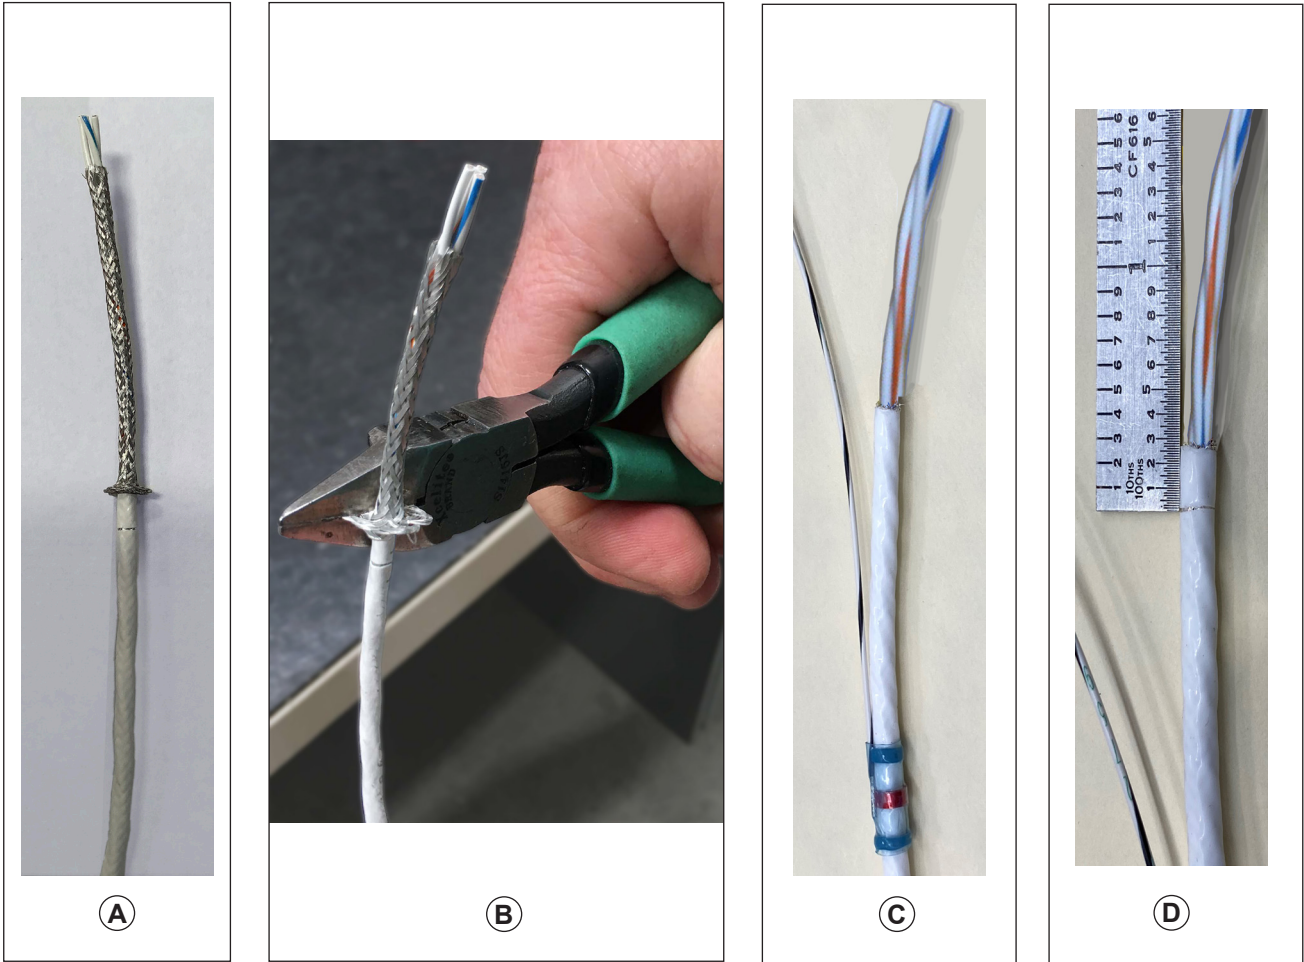

FIGURE 8 Removing outer jacket & braided shielding
18. Refer to Figure 8. On bare end of D845-3 harness assembly wire (-2886), lightly score (cut without fully penetrating) white outer jacket approximately 1.75 inches from end. Twist scored jacket until score opens, then remove jacket to expose underlying, braided shielding. Push shielding toward remaining jacket to create flange in shielding (A). Using cutters as shown in (B), remove shielding flange then slide off loose shielding to expose inner, insulated wires. Verify complete removal of shielding by inspection using 10X magnification.